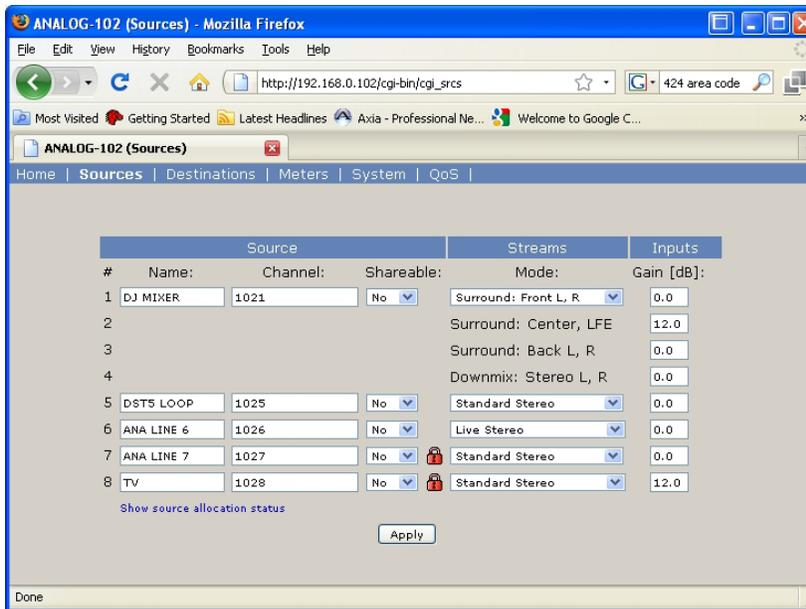

Figure 3-3: 8x8 Node - Surround Mode
- Surround – Enables “5.1+Stereo” surround mode as shown in Figure 3-3. This choice is only available on ports 1 and 5. Selecting surround mode creates a bundle of 4 ports: 1-4 or 5-8.